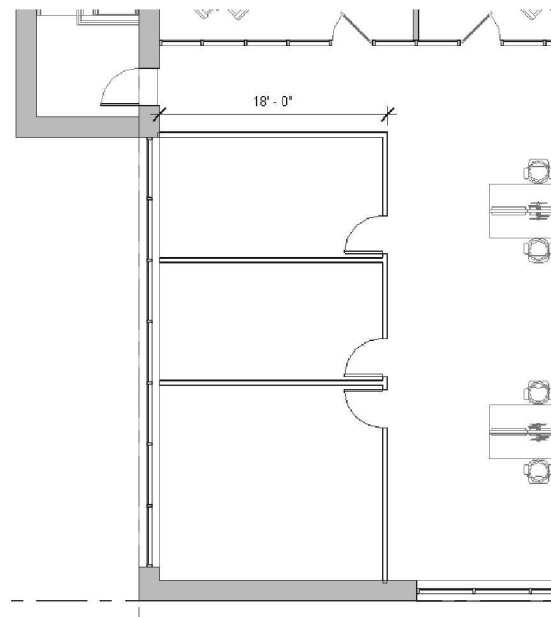

FIGURE 17-3.14
38. In the **Level 2 – New** floor plan view, add the walls and doors shown in Figure 17-3.14; center the two walls on the exterior curtain wall mullions.